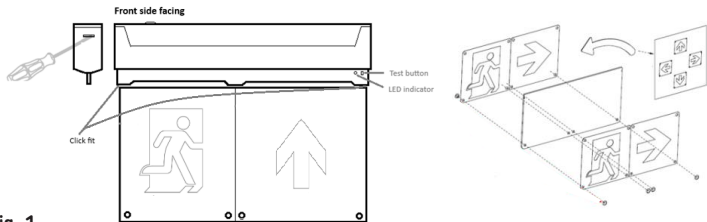

Fig. 1
- Use a flat driver to separate back plate from main housing (see Fig. 1)